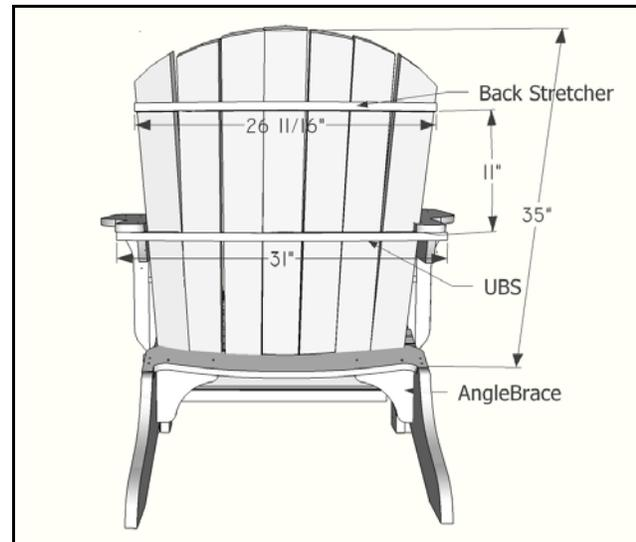

Figure 3. Rear View
F. The amended chair has a back stretcher, an additional part. Cut the radius the same as the other back supports (32 1/2" and cut it a bit long, e.g., 27" and trim it at assembly time.(Figure 3)
Mark the center of the center slat 17 1/4" from the top. Draw a 17" radius from this point across the top of the seven slats, using a beam compass or a pencil tied with string. These mark the top of each slat. (See Figures 3 and 4)
C. Turn the seat over and install the two "L"-shaped corner brackets under the lower back support. (Figures 3 and 5) The grain orientation of the corner bracket matters somewhat. Long grain will make a stronger glue joint with the seat frame than end grain.
G. Install the rest of the seat back slats (Figure 3). Work from the middle slat outward, keeping the inner bottom corner of the new slat touching the corner of the existing slat. There is *no gap between slats* at the bottom and equal gaps (a bit less than 1") at the top. Since the slats fan outward toward the top by about $\frac{3}{4}$ "-1" each, each slat will intersect an inner slat corner slightly "lower down" on the lower back support in an arc. You may pre-drill the inner screw hole at the bottom of each slat but not the others, since its too hard to predict where the holes should be until the slat is in place. You can lay a flexible steel ruler on the back slats to line up the screws neatly. Use two screws at both the upper and lower back support contact points.